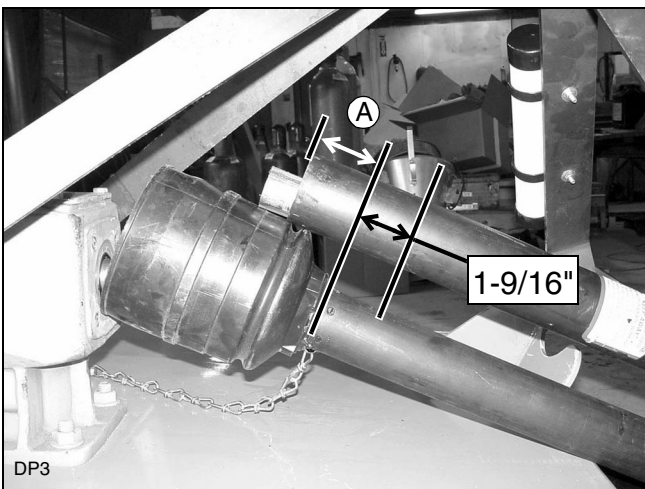

Figure 6. Determine Shield Length
4. Measure from end of the upper shield to the base of the bell on the lower shield (A). Add 1-9/16" to dimension (A). See Figure 6.